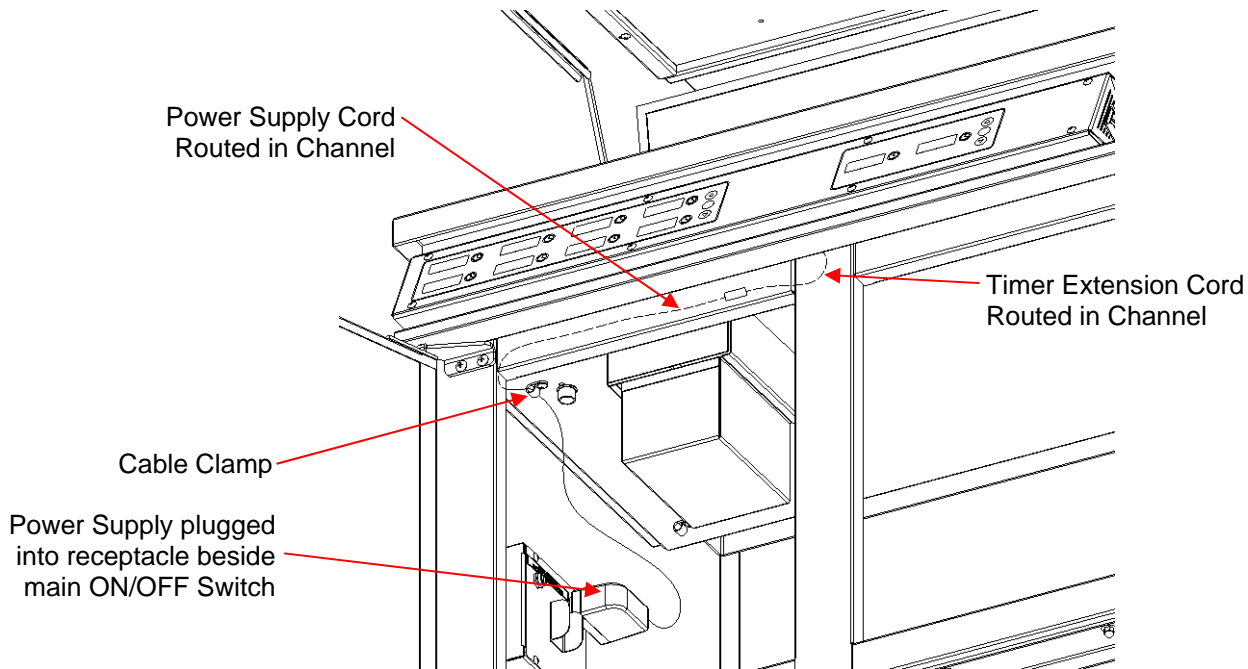

FIGURE 3F - Cable Clamp and Channel
4. Plug in power supply cord to the timer extension cord. Route cords in channel and secure excess using the cable clamp (figure 3F).